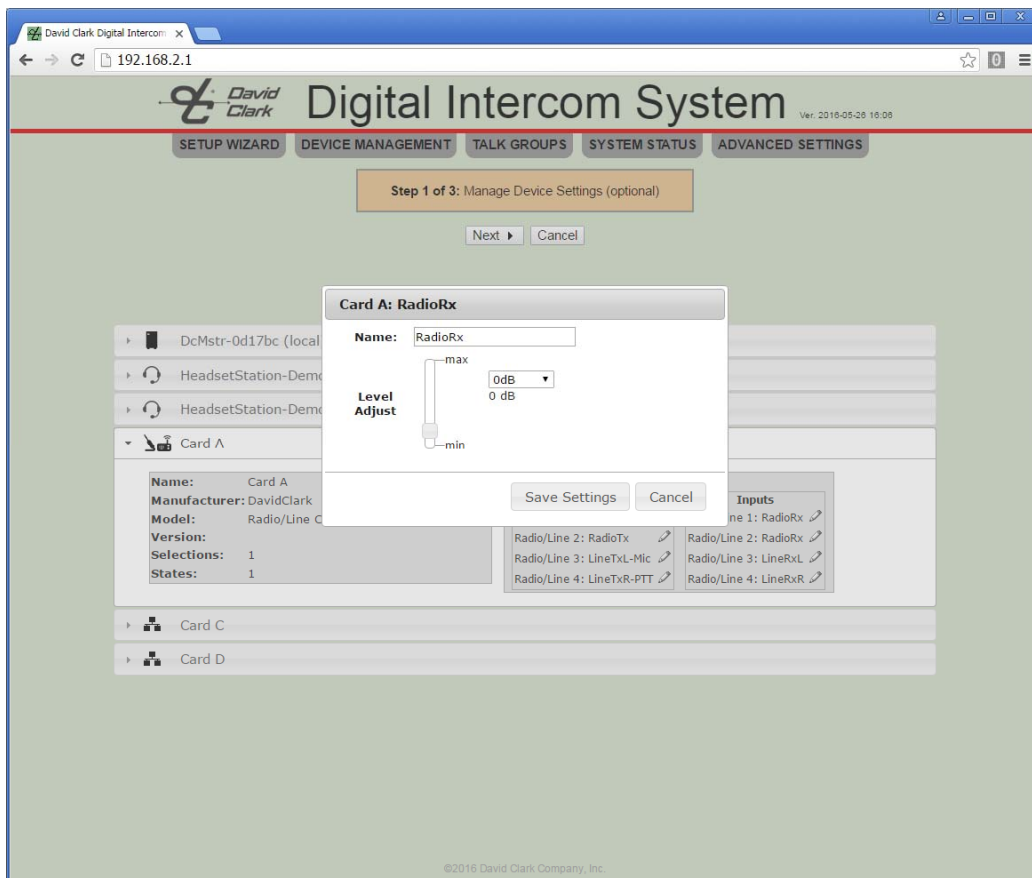

Figure 8.7
- A Radio Card or Radio/Aux Card can have its channels renamed and levels adjusted. Audio level adjustments should not be made now. Instead, make these adjustments after talk group setup is complete. See **Figure 8.7**
- Audio levels - see **Figure 8.7**.